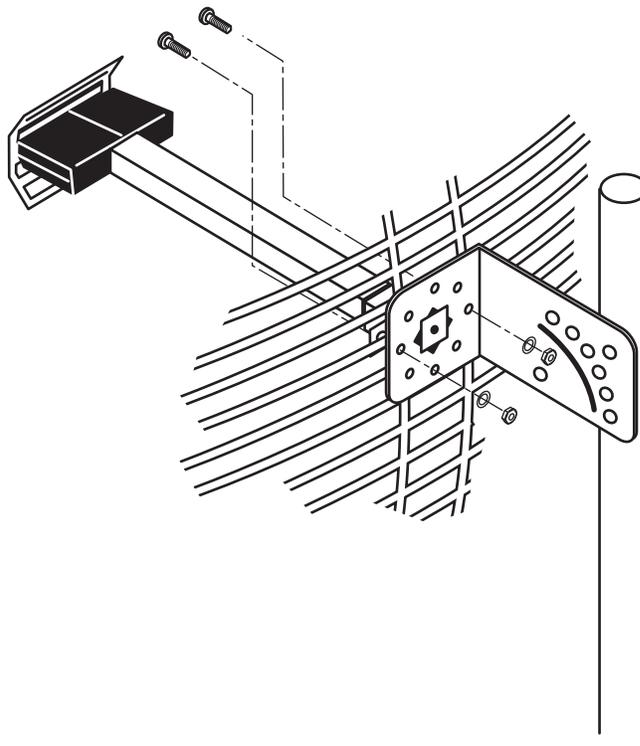

Figure 3-4. Attaching the “L” Bracket.
3. Place the “L” bracket on the back of the antenna. Secure the feed on the front with two carriage bolts. Secure the feed on the back with the lock washers and nuts (see **Figure 3-4**).